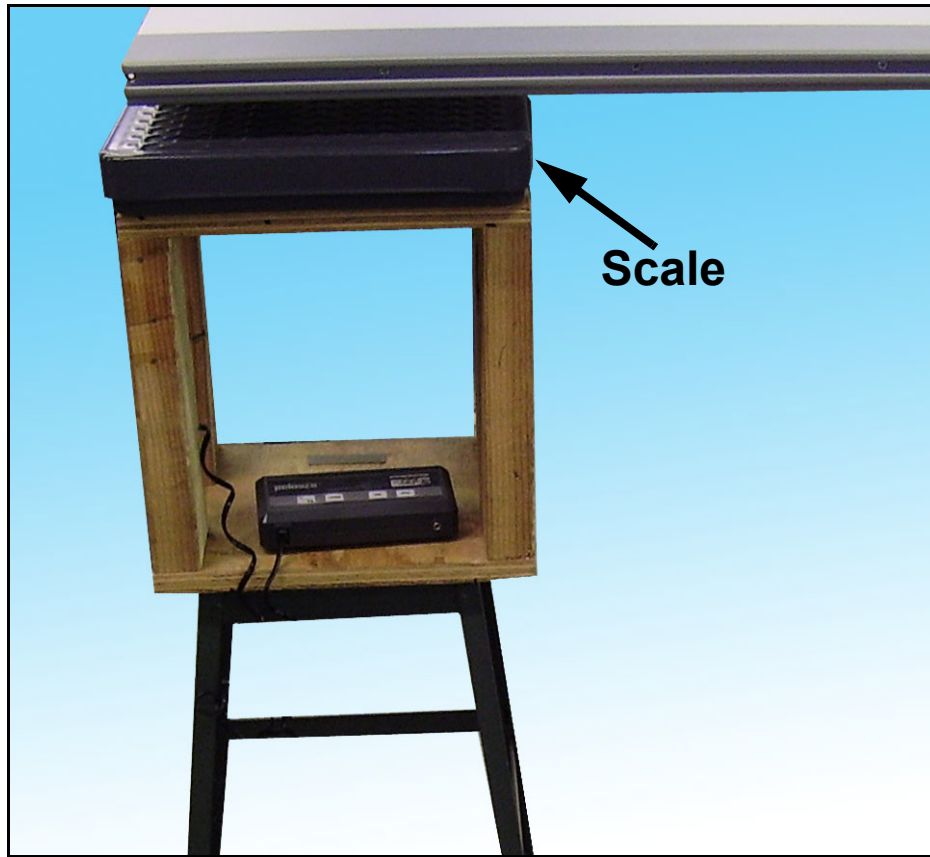

Figure 2-41. Scale & Stool Under Table Top
- 71 Place a stool or other sturdy support under the left end of the table top as shown in Figure 2-41 below.